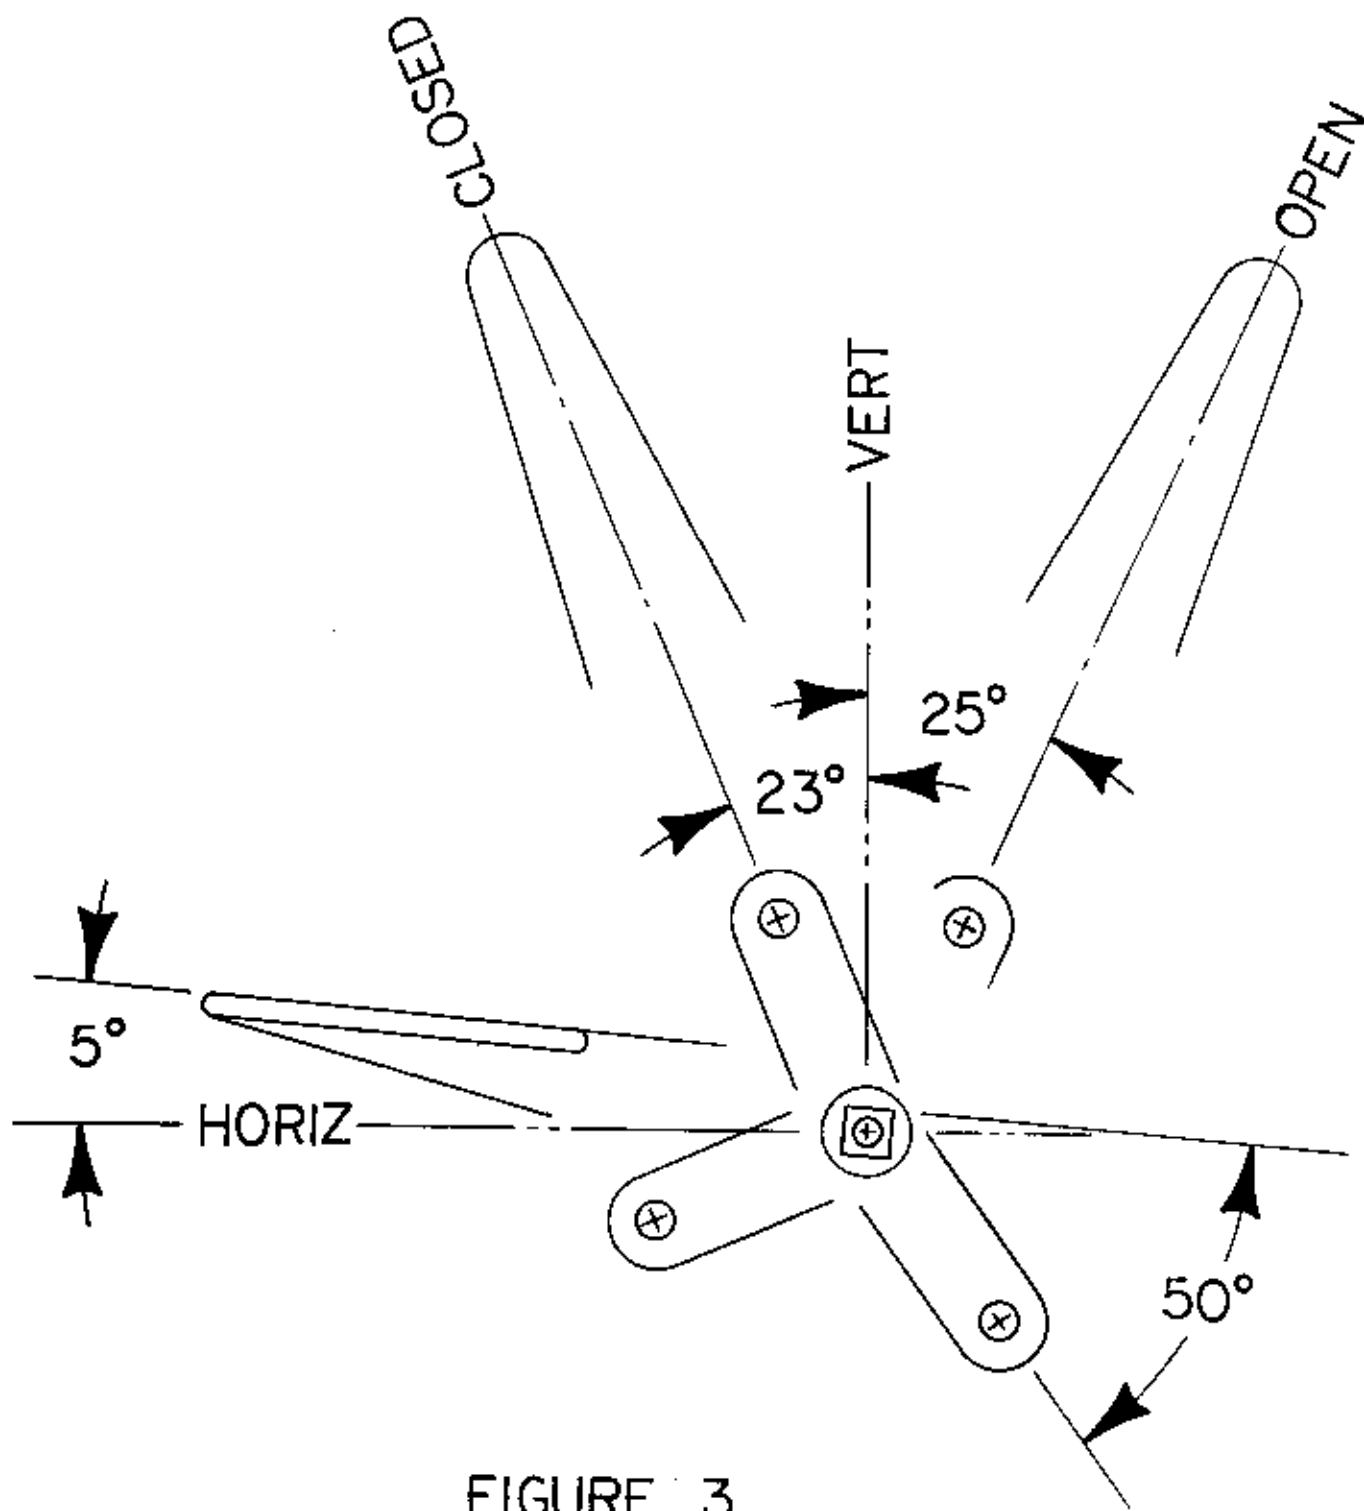

FIGURE 3
4. Position 310298-7 insert in handle shaft with respect to levers as shown in Figure 3. Threaded end of insert to protrude .62 from end of shaft. Tungsten inert gas arc weld insert to shaft.